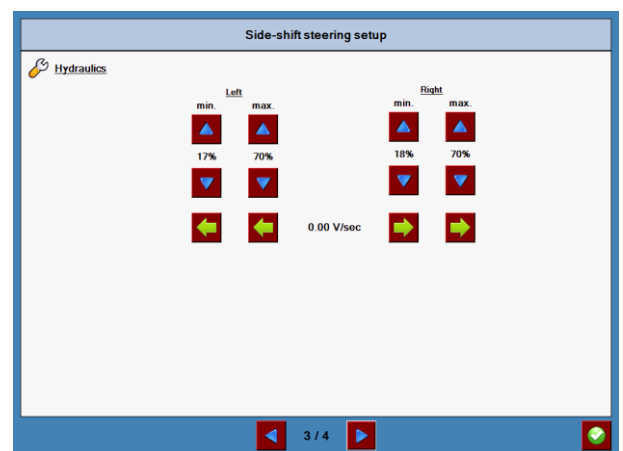

Figure 21 Calibration wizard SBGuidance; steering
-  *The minimum steering percentages can be fine-tuned in the SBGuidance user software too (Figure 21).*
i Limit the max steering percentages when using a **Proportional hydraulic valve!** In field operation the steering percentages can be altered in SBGuidance when fine-tuning is needed (Figure 21).